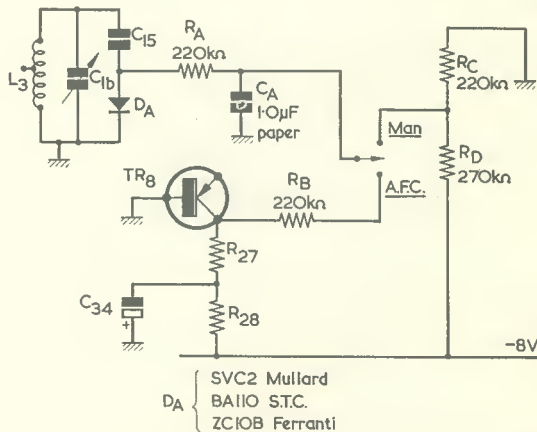

Fig. 10. An optional a.f.c. circuit which may be added to the receiver. The numbered components are those in Fig. 1 (published February)
In the a.f.c. circuit shown in Fig. 10, the resistor R_A is used to isolate the oscillator voltage from C_A , while R_B is used to decouple the audio at TR_8 collector from C_A . The result is that only the average d.c. level at TR_8 collector influences the diode D_A . This d.c. level is a measure of the second i.f. frequency as described earlier, so if the second i.f. rises due to drift, the voltage at TR_8 collector becomes less negative. This decreases the negative bias on D_A , increasing its capacitance and reducing the oscillator frequency. As the oscillator frequency is higher than the aerial frequency, this means that the first i.f. decreases by a small amount. Now the second
A.F.C. can cause a small side-effect which can be a little puzzling. Once the a.f.c. has locked on to a signal, it may hold the frequency of the oscillator steady as $C_{1(b)}$ is rotated beyond the next station. Then the a.f.c. will become unlocked, whereupon the tuning will jump past that next station. An a.f.c./manual switch is therefore recommended, as shown in Fig. 10. The two resistors R_C and R_D bias the diode D_A to the voltage that TR_8 collector should have when the receiver is correctly tuned (-3.5 to $-4.0V$), and this enables manual tuning to be carried out with the correct amount of diode capacitance in the circuit.